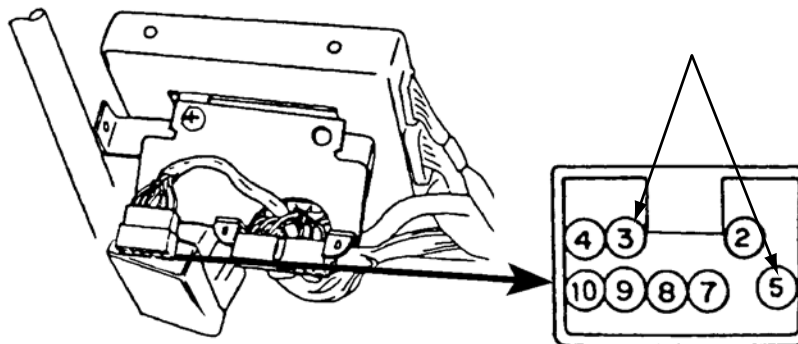

Figure 7-14 1990–95 Tracker RWAL ABS connector jump pins
- Release the parking brake and jump pins 3 and 5 (Figure 7-14) for two seconds, then remove the wire to flash codes.